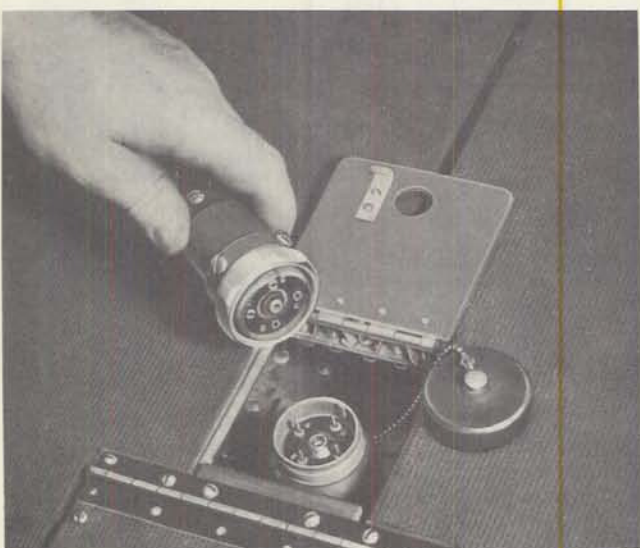

Figure 61—Turret Cable and Plug
*c.* If a cable is provided, plug into floor outlet (fig. 61).